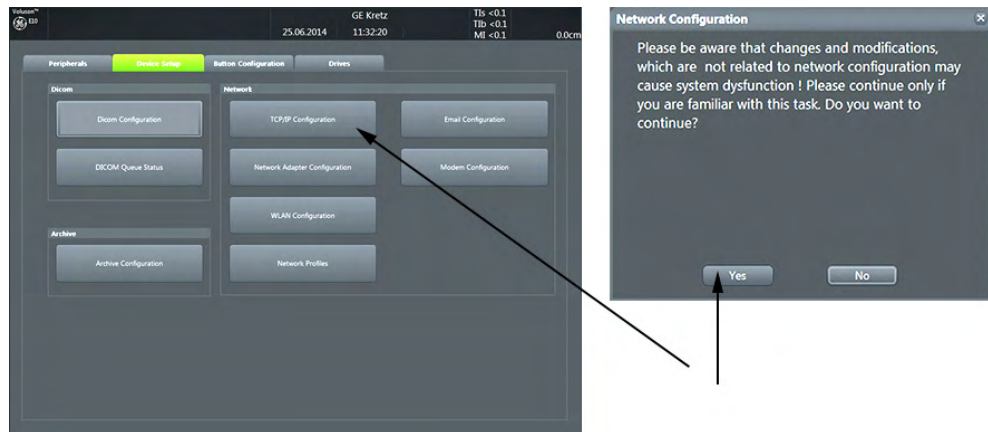

Figure 3-37 Configuration
5. Click the **WLAN Configuration** button; see Figure 3-37 on page 3-52.
3. Click the **WLAN Configuration** button; see Figure 3-37 on page 3-52.